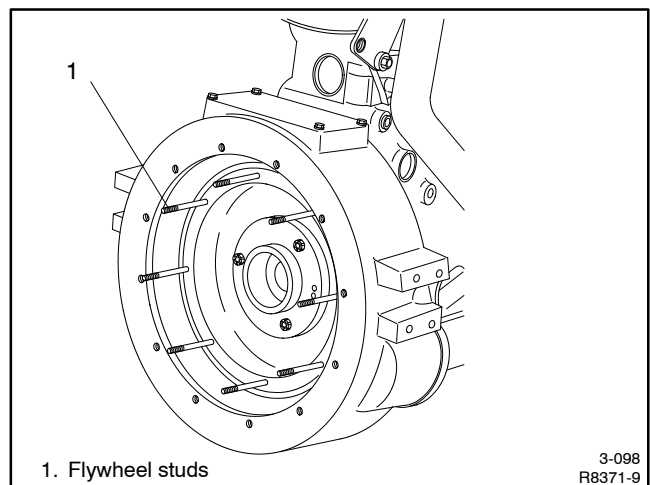

Figure 11-20 Flywheel Studs
17. If studs are used, apply Loctite® No. 271 red to stud threads and install into flywheel as shown in Figure 11-20. Install studs completely into flywheel. Apply Loctite® No. 242 blue to stud threads on nut side.